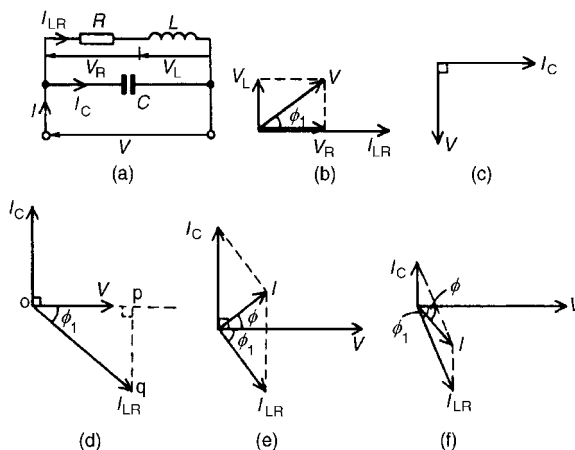

Figure 16.5
In the two branch circuit containing capacitance C in parallel with inductance L and resistance R in series (such as a coil) shown in Fig. 16.5(a), the phasor diagram for the LR branch alone is shown in Fig. 16.5(b) and the phasor diagram for the C branch is shown alone in Fig. 16.5(c). Rotating each and superimposing on one another gives the complete phasor diagram shown in Fig. 16.5(d)
The current I_{LR} of Fig. 16.5(d) may be resolved into horizontal and vertical components. The horizontal component, shown as op is $I_{LR} \cos \phi_1$ and the vertical component, shown as pq is $I_{LR} \sin \phi_1$. There are three possible conditions for this circuit:
- (i) $I_C > I_{LR} \sin \phi_1$ (giving a supply current I leading V by angle ϕ —as shown in Fig. 16.5(e))
- (ii) $I_{LR} \sin \phi > I_C$ (giving I lagging V by angle ϕ —as shown in Fig. 16.5(f))
There are two methods of finding the phasor sum of currents I_{LR} and I_C in Fig. 16.5(e) and (f). These are: (i) by a scaled phasor diagram, or (ii) by resolving each current into their ‘in-phase’ (i.e. horizontal) and ‘quadrature’ (i.e. vertical) **components**, as demonstrated in problems 6 and 7. With reference to the phasor diagrams of Fig. 16.5:
Resonance occurs in the two branch network containing capacitance C in parallel with inductance L and resistance R in series (see Fig. 16.5(a)) when the quadrature (i.e. vertical) component of current I_{LR} is equal to I_C . At this condition the supply current I is in-phase with the supply voltage V .